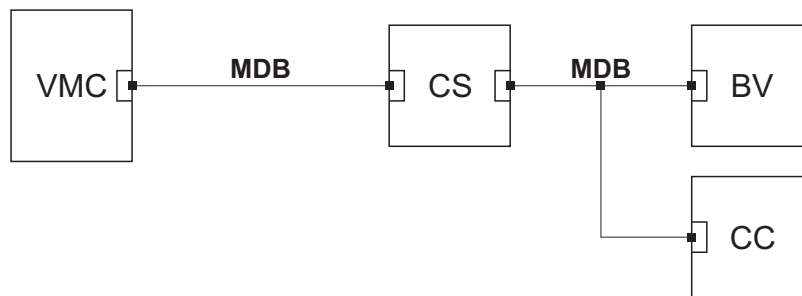

Fig. 5: Connection to a vending machine controller and peripheral devices (2)
The application example in figure 5 shows the connection of the currenza clip reader (CS) via master/slave cable to a vending machine controller and further peripheral devices.